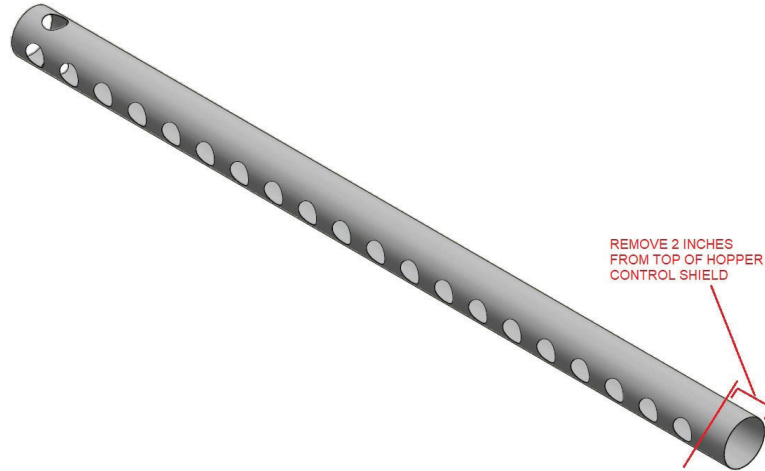

Figure 1 - 10A12665-001 Shield
- Cut off 2" from the top of the 10A12665-001 shield. Deburr, prime and paint for corrosion protection. Reference Figure 1.